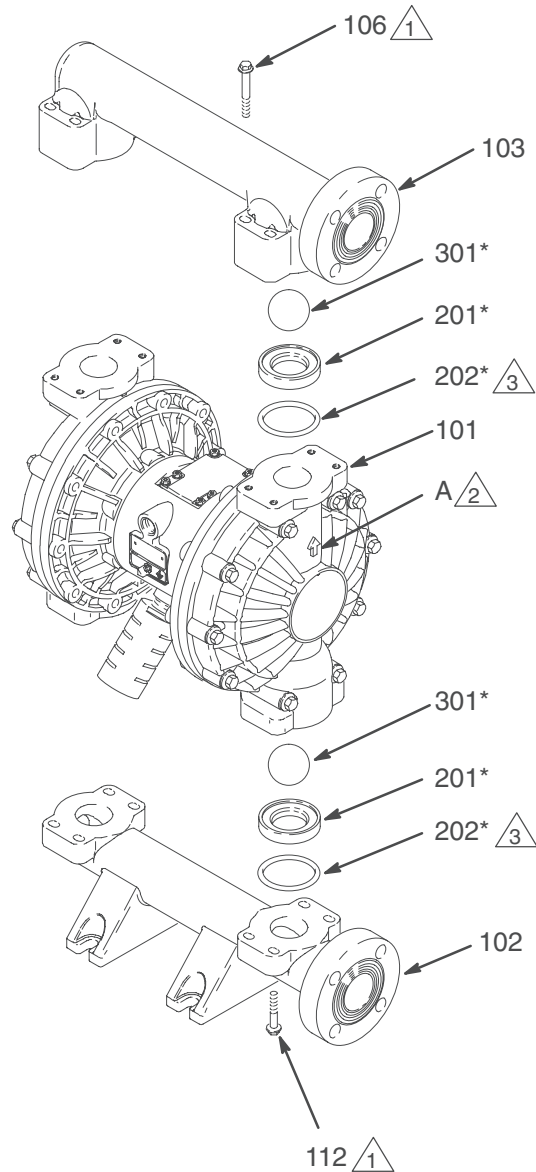

Fig. 11
3. Using a 10 mm socket wrench, remove the eight bolts (106) holding the outlet manifold (103) to the fluid covers (101). See Fig. 11.
4. Remove the seats (201), balls (301), and o-rings (202) from the manifold.
2. Reassemble in the reverse order, following all notes in Fig. 11. Be sure the ball checks are assembled **exactly** as shown. The arrows (A) on the fluid covers (101) **must** point toward the outlet manifold (103).
- 2 Arrow (A) must point toward outlet manifold (103).